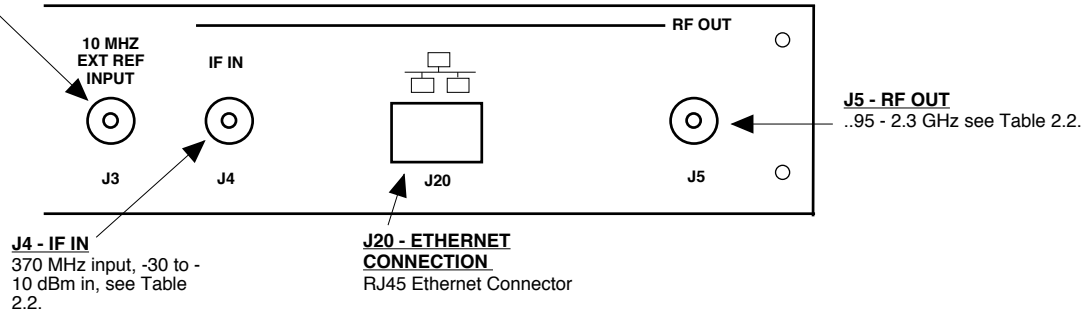

Figure 2.1 Model 2017-0923#-370 Rear Panel I/O's
2.2 Rear Panel Input/Output Signals and Control - Figure 2.1 shows the input and output connectors on the rear panel.
- 1.) Connect a -30 dBm to -10 dBm signal to IF In, J4 (Figure 2.1).
- 1.) Connect a -30 dBm to -20 dBm signal to RF In, J2 (Figure 2.1).